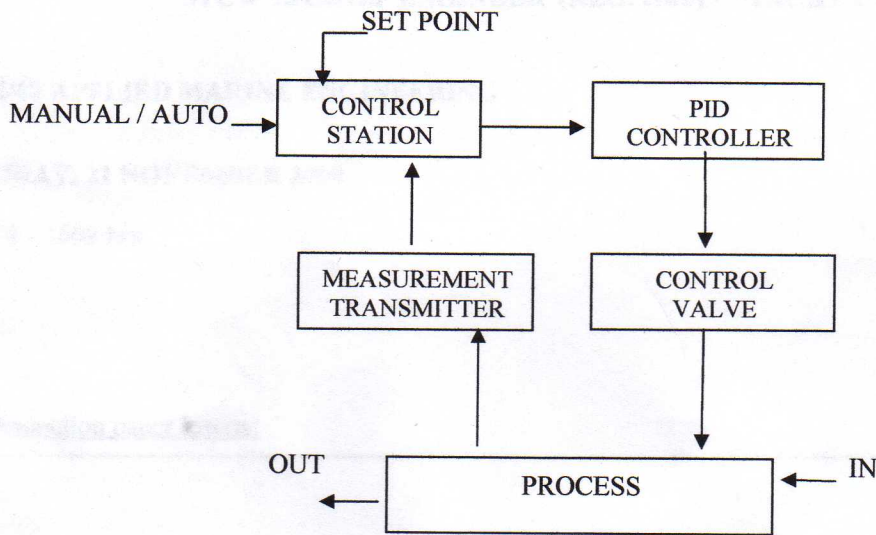

Fig Q9
- (c) checks of test equipment; (1)
- (d) personnel allowed to carry out work; (1)
- (e) permit-to-work; (1)
- (f) test equipment; (1)
- (g) test leads; (1)
- (h) personnel not directly involved in the operation; (1)
- (i) conducting tips of probes; (1)
- (j) scheduling of electrical maintenance work. (1)
8. (a) Sketch a labelled diagram of an emergency battery system with charging from an a.c. supply, showing the means for automatic connection of the battery power to the emergency supply. (8)
- (b) Explain how the battery system sketched in Q8(a) may be tested to ensure connection to the emergency supply on loss of the main power. (2)
9. With reference to the control loop block diagram shown in Fig Q9, explain the function of EACH of the following:
- (a) measurement transmitter; (2)
- (b) control station; (2)
- (c) PID controller; (2)
- (d) control valve; (2)
- (e) manual / auto option. (2)